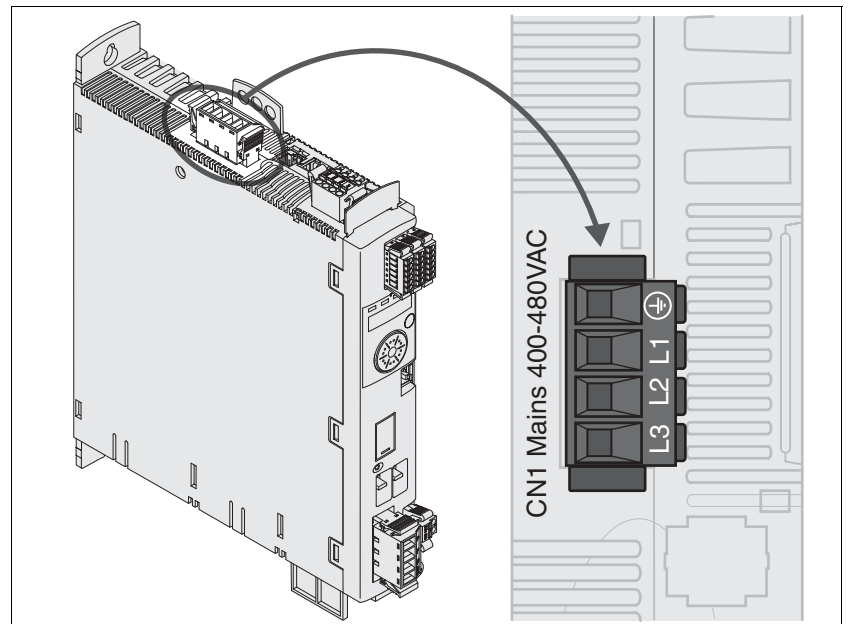

Figure 6.10 Wiring diagram power stage supply voltage for three-phase device
- ▶ Connect the mains cable (Figure 6.10). Note the tightening torque specified for the terminal screws.